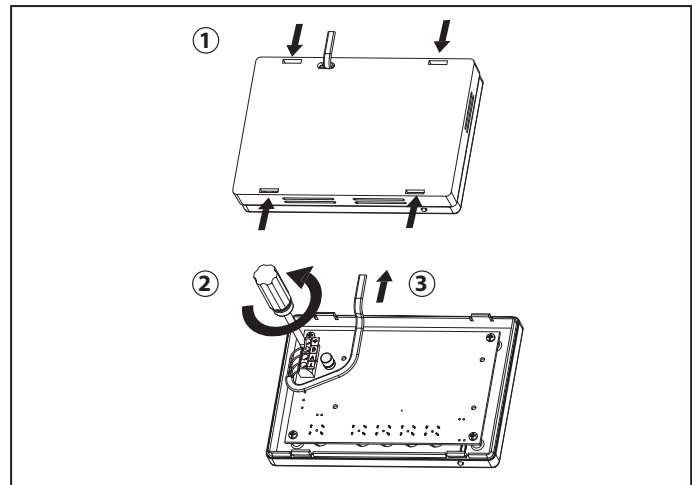

Fig. 9. Control panel shutdown
The connections to the controller circuit board are shown in Fig. 9.
1. Disassemble the control panel (ref. Fig. 9):